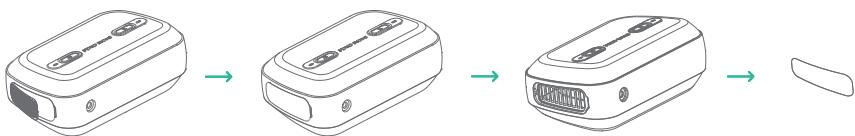

Figure 5-1 Removing the air filter
3) Replacing the air filter: It is recommended to replace the air filter once a month (it may be replaced more frequently based on the actual air quality). If the air filter is damaged or cracked, replace it promptly. Figure 5-1 shows how to remove the air filter, while Section 4.2 describes the installation procedure.